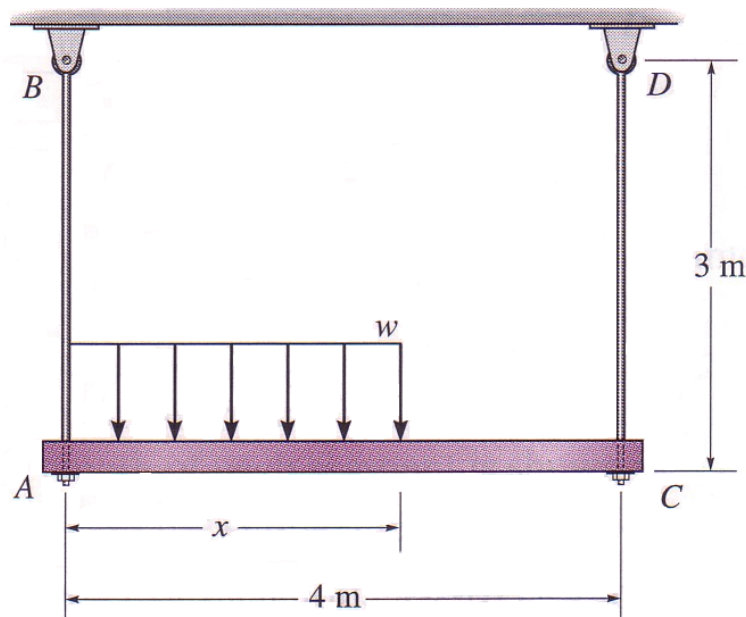

Figure Q5[a]
- Q5. [a]** The rigid beam AC as shown in Figure Q5[a] is supported at its end by two steel tie rods, AB and CD. The rods have diameters of $d_{AB} = 13\text{mm}$ and $d_{CD} = 8\text{mm}$. If the allowable stress for the steel is $\sigma_{all} = 110\text{MPa}$, determine the intensity of the distributed load w and its length x on the beam AC so that the beam remains in the horizontal position when it is loaded.